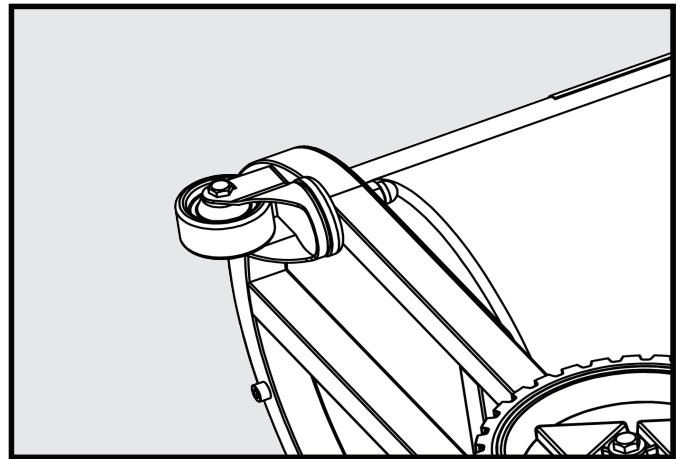

FIGURE 1
1. Turn the base frame onto its side (Fig 1).
3. Tighten acorn nut. (17)